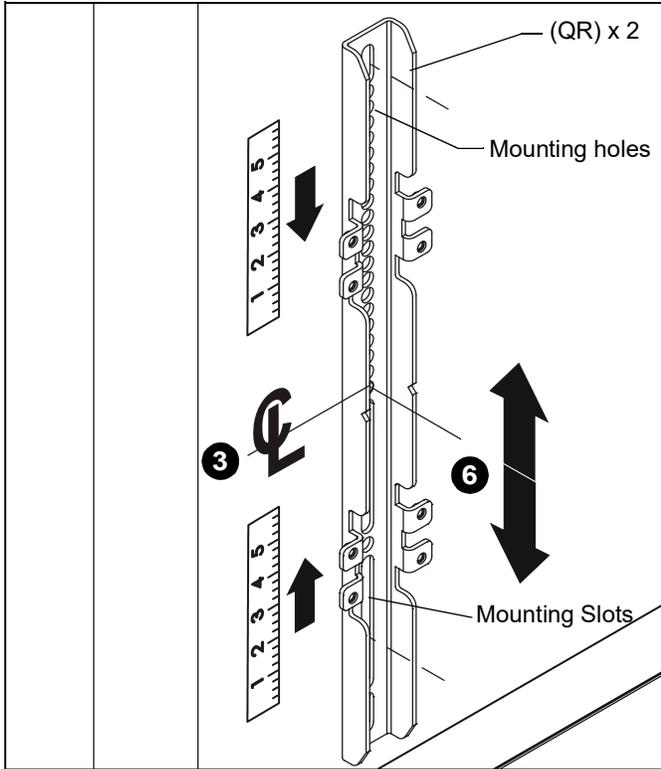
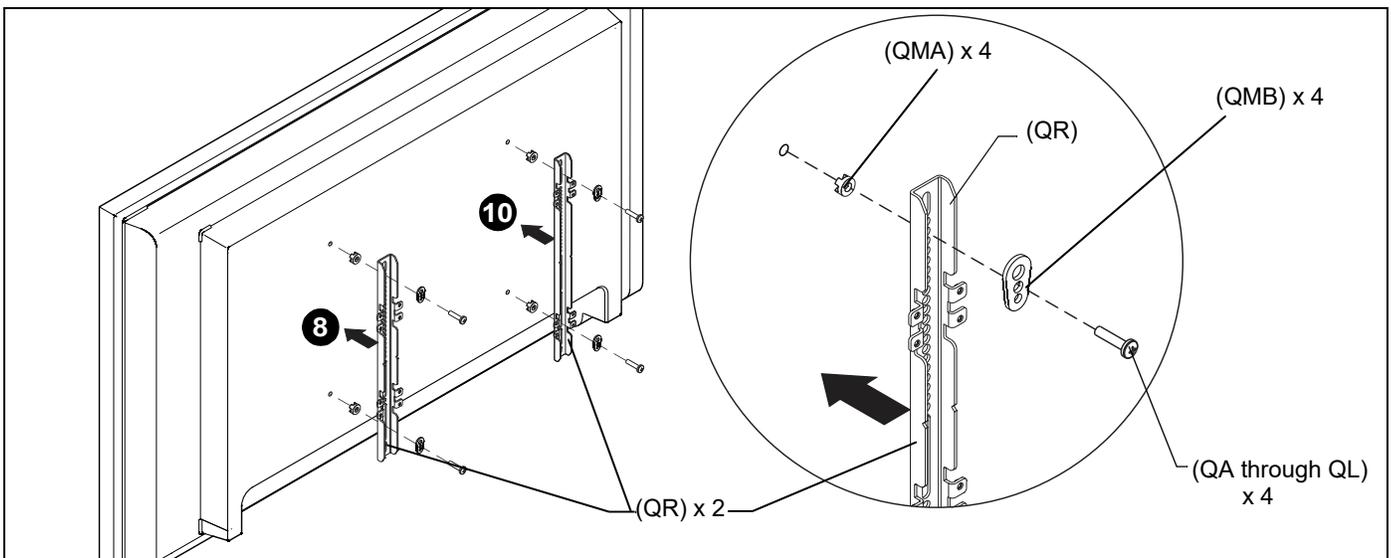

Figure 19
Figure 21
3. Determine and mark the vertical center position between the Left side Upper and Lower mounting holes in display. (See Figure 19)
4. Determine and mark the vertical center position between the Right side Upper and Lower mounting holes in display. (See Figure 19)
5. Orient vertical mounting bracket (QR) so that mounting holes are on top and mounting slots are on bottom. (See Figure 19)
6. Align mounting holes in vertical mounting bracket (QR) with upper and lower mounting holes in display.
7. Adjust vertical mounting bracket (QR) position until mark made in Step 1 aligns with center mark in vertical mounting bracket (QR).
8. Select correct screws, nesting spacers (if necessary) and universal washers (if required) from the hardware bag (QA-QM) and attach brackets to back of screen. (See Figure 21)
9. If the display has a recessed mounting surface, protrusions or a power box, a spacer and longer mounting hardware must be placed between the display and vertical mounting bracket (QR). (See Figure 21)